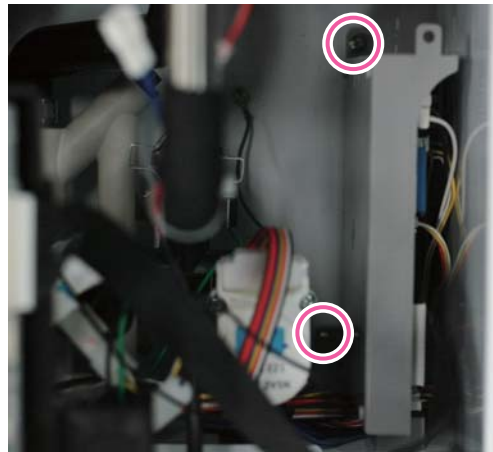

Figure 1
4. Remove the screws that are located near the top and bottom of the PCB that hold it in place as shown in Figure 1.